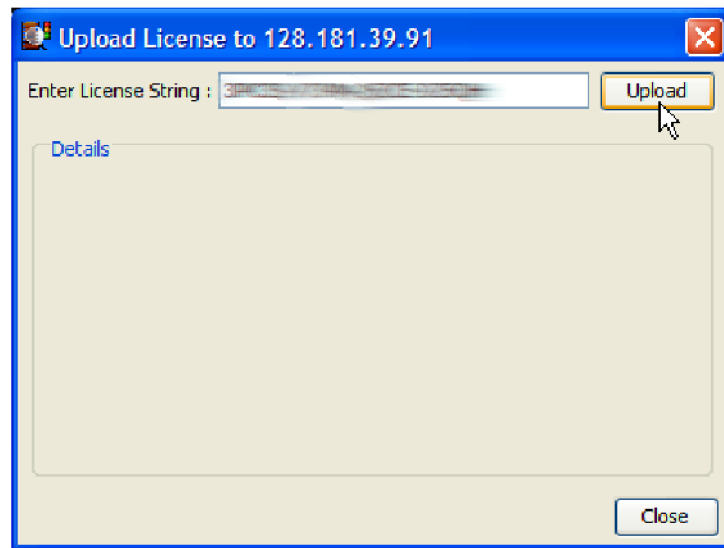

Figure 29: Upload license dialog box (RUI v3.0 and above)
- In the Connect to MTM Device dialog box, click **Upload License** to open the Upload License dialog box. (See Figure 29.)